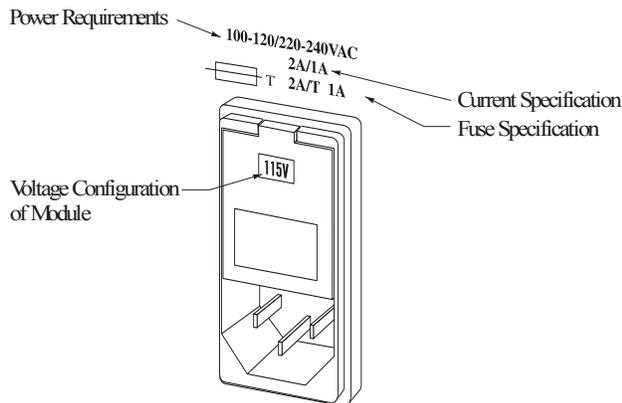

Figure 8. Reading the voltage setting from the rear panel.
The voltage cartridge has been set at Labsphere prior to shipping and the correct power cord is provided at shipment to suit your power source. Should you ever need to change the configuration, make sure the desired setting of 115 or 230 VAC is prominently displayed in the window as shown in Figure 8.
1. Remove the power cord and gently pry up the plastic tab on the top end of the module in Figure 8 using a slotted screwdriver.